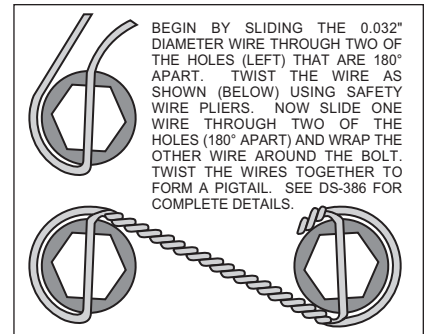

Figure 4. Safety Wire Diagram
- The caliper mount bracket assembly (1) should be installed first with clean, dry threads on the existing OEM mounting bolts. Install the bracket from the rear side of the hub by sliding stock bolt through flat washer (2), through the caliper mounting bracket (1) and shim washer (3) through the OEM caliper mounting bracket ears. The bracket must tighten squarely against the inboard side of the caliper mount bosses on the upright. Inspect for interference from casting irregularities, machining ridges, burrs, etc. Use one thin shim (3) between the bracket and upright during initial trial fitting. Later, after the caliper, pad, and rotor alignment has been checked, and any necessary shims have been put in place, the mounting bolt threads should be coated with red *Loctite*® 271 and torqued to 75 ft-lbs.
- With the larger I.D. side of the rotor (4) facing away from the hat (5), bolt rotor (4) to hat (5) through the backside of the rotor using washers (6) and bolts (7). Be sure all bolts thread in smoothly and are snug. Then, torque all bolts in an alternating sequence to 103 **in-lbs**. The rotor mounting bolts (7) must be lockwired using standard 0.032 inch diameter stainless steel safety wire as shown in Figure 4. Please refer to Wilwood's data sheet DS-386 (available at www.wilwood.com/pdf/ds386.pdf) for complete safety wire installation instructions.
- Install one shim (12) over each stud (11) on the radial mount bracket (1). Slide the caliper (8) in place over the studs and rotor and install the washer (10) and lock nut (9) to hold the caliper in place. The caliper bleed screws should be pointing up. Snug the lock nuts (9) and check that the rotor (4) is centered in the caliper (8). Add or subtract .033" shims (3) as necessary between the caliper mount bracket (1) and the caliper mount bosses on the upright assembly to center the caliper.
- Remove the caliper center bridge pad retainer bolt, nut, and tube from the caliper. Slide the brake pads (13) into place. They should install easily without interference. Check that the outside radius of the brake pad is aligned with the outside diameter radius of the rotor face. Add or subtract shims (12) between the caliper and mount bracket to gain the proper alignment. Reinstall the center bridge pad retainer tube, bolt, and locknut. The locknut should be snug without play in the bolt or tube. Be cautious not to over tighten.
- Adjust the parking brake shoes outward (using a drum shoe adjustment tool available at your local auto parts store) while spinning the hat (2) until a slight drag is felt against the hat/drum. Remove the lug nuts that were holding the hat/rotor in place. Install the wheel and lug nuts. Check to see that the wheel rotates freely without interference.